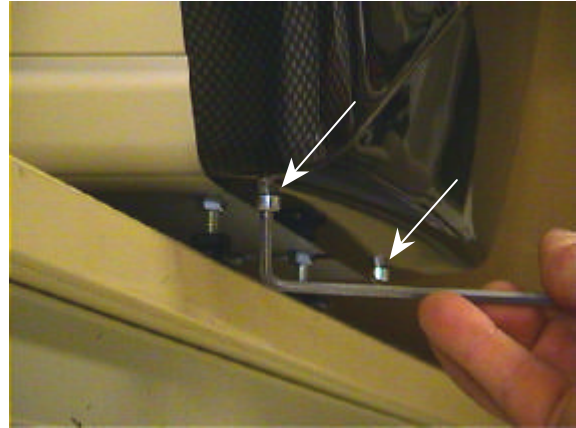

fig. 12
3. Remove, using the Allen key 4mm, the two M5 socket screws, situated at the bottom of the cover. It's best practice to slide the machine to the edge of the table or counter where it's placed. See figure 12.